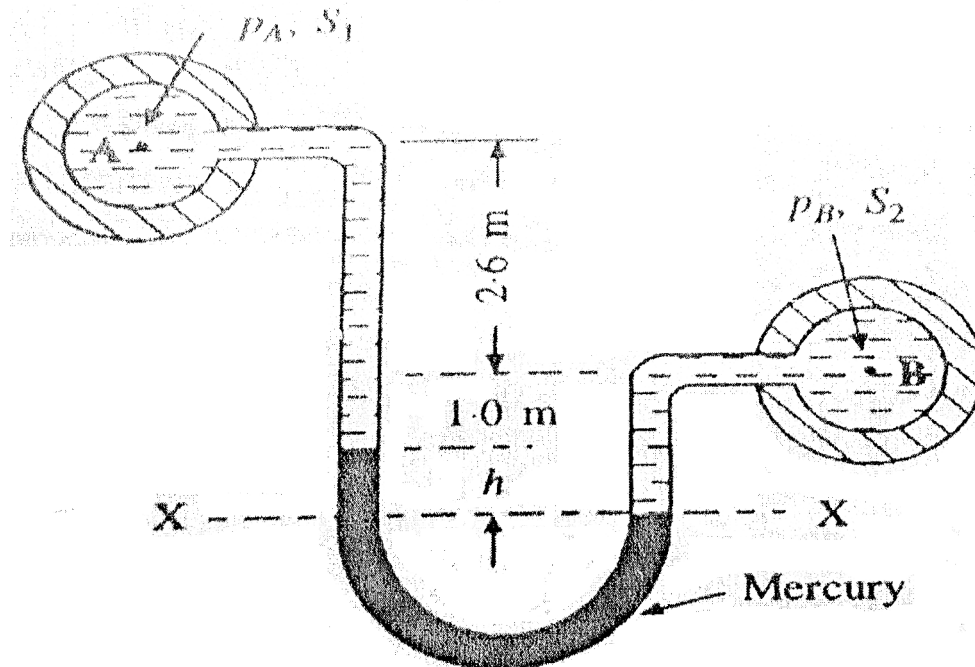

Figure 1, question 2 (b)
2. (a) With a neat sketch explain the working principal of a U-tube differential Manometer. (10)
- (b) In Figure 1, a U-tube differential manometer connecting two pressure pipes at A and B respectively.